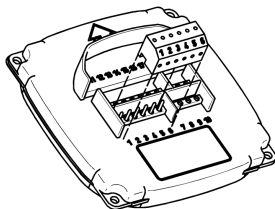

Fig. 4 : Removing the terminal block
5. Before starting to wire up, pull out the plug-in terminal block on the rear of the reader / control unit (see Fig. 4 : „Removing the terminal block“)